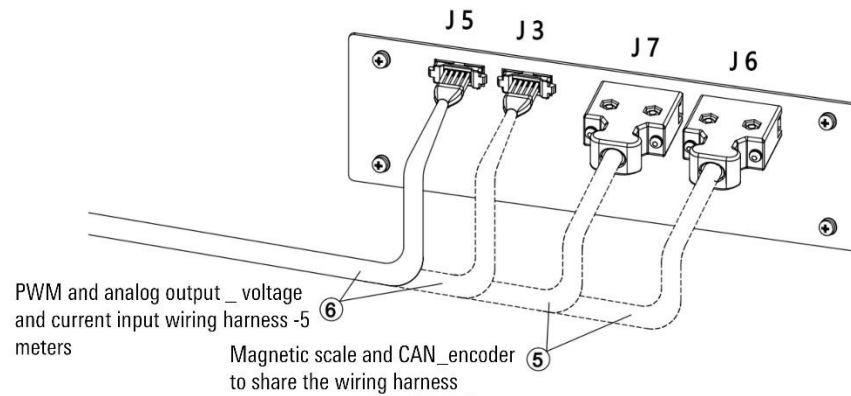

Figure 18-31 MCBS-IEB front view
Step4. Connect the outside lines of the cabinet according to the functions used, refer to Figure 18-31: